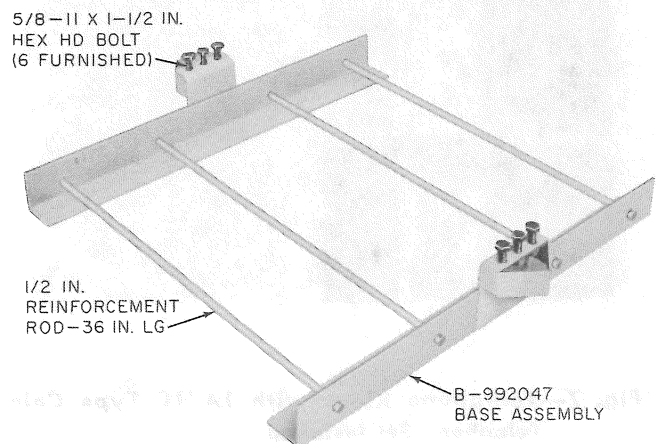
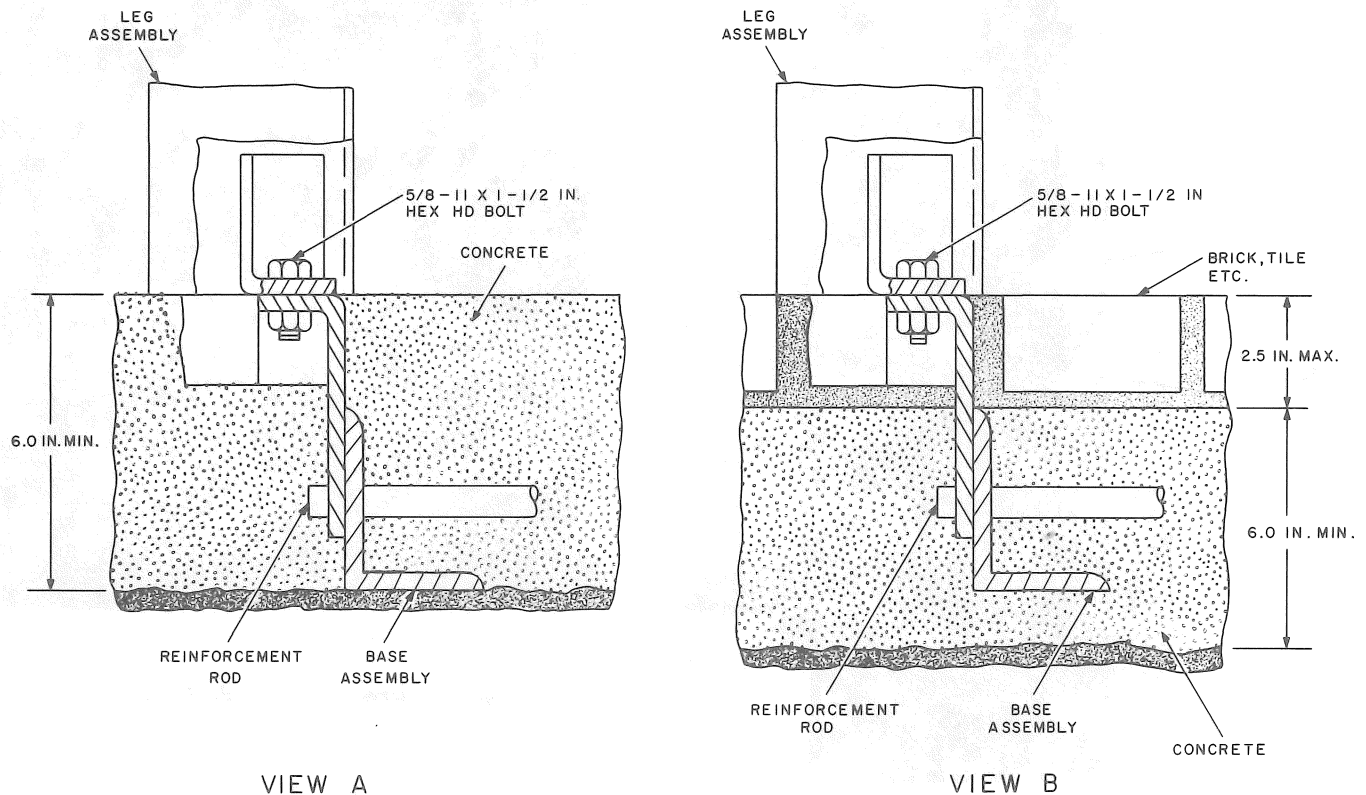

Fig. 6—KS-20255, List 15 Base Assembly
Fig. 15—Positioning Base Assembly in Concrete
3.02 The List 15 base assembly (Fig. 6), used for mounting the List 1 kiosk, must be ordered separately.
3.04 The base assembly must be embedded in 6 inches of concrete to provide a permanent foundation for the booth. Position assembly as shown in Fig. 15(A) if concrete serves as kiosk floor or as shown in Fig. 15(B) if some additional material (brick, tile, etc) serves as the floor.
- (2) Tamp 6 inches of cinders or gravel in the bottom of the form.
- (3) Position the two B-992047 bases per Fig. 15(A) or 15(B) and insert the four steel reinforcement rods (Fig. 6).
- (4) Using the six 5/8-11 by 1-1/2 inch bolts furnished with base assembly, install the KS-20255, List 12 mounting template on the two bases to ensure proper alignment.